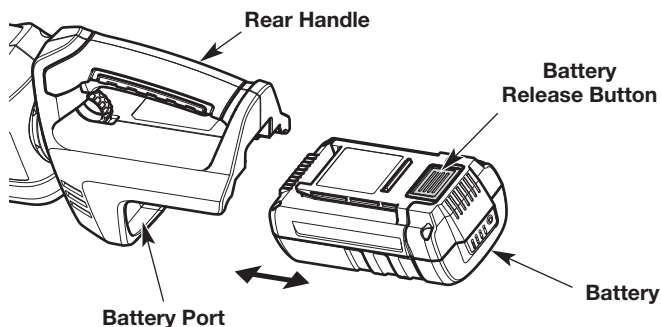

Fig. 5
1. Grasp the rear handle firmly (Fig. 5). **DO NOT** squeeze the trigger. Refer to *Starting and Stopping*.
2. Slide the battery into the battery port (Fig. 5). Push the battery firmly until the battery locks into place (Fig. 5). There should be an audible “click.”
2. Press the battery release button to unlock the battery (Fig. 5).
3. Pull the battery out of the battery port (Fig. 5).